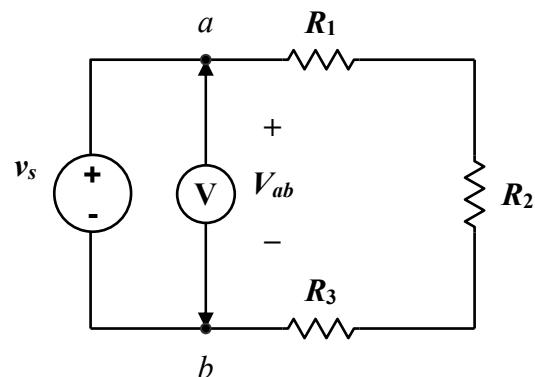

Figure 2.3b
- Connect a red lead to the positive terminal of the power supply, and a black lead to the negative terminal. Ground the negative terminal of the supply. Connect the red lead to Node *a* of the circuit, and the black lead to Node *b* (**Figure 2.3b**).
Place the DMM in voltage mode, across the voltage source (**Figure 2.3b**).
7. **Turn on** the power supply. Increase the supply voltage so 12.0 volts is measured by the DMM (in DC voltage mode) between Nodes *a* and *b* ($v_s = V_{ab} = 12.0$ V, **Figure 2.3b**). Record the measured value as $V_{ab,m}$ at the bottom of **Table 2-1**.